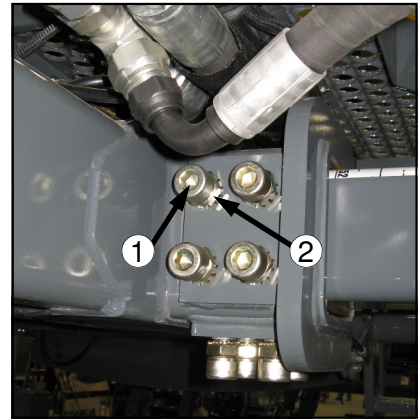

FIG 7.19-1
HYDRAULIC TREAD ADJUST UNITS— With the engine turned off, visually inspect the tread bearing bolts on both the bottom and side tread adjust bearing plates (fig. 7.19-1) every 50 hours. Torque check them every 100 hours.
1. Loosen the jam nut (fig. 7.19-1, item 2) on each tread adjust bearing bolt.